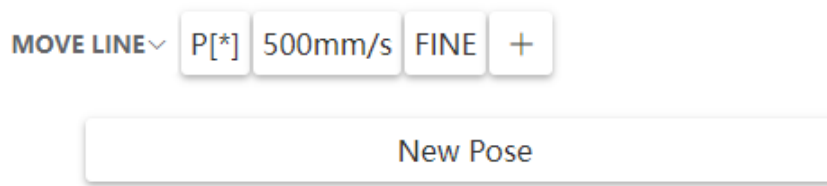
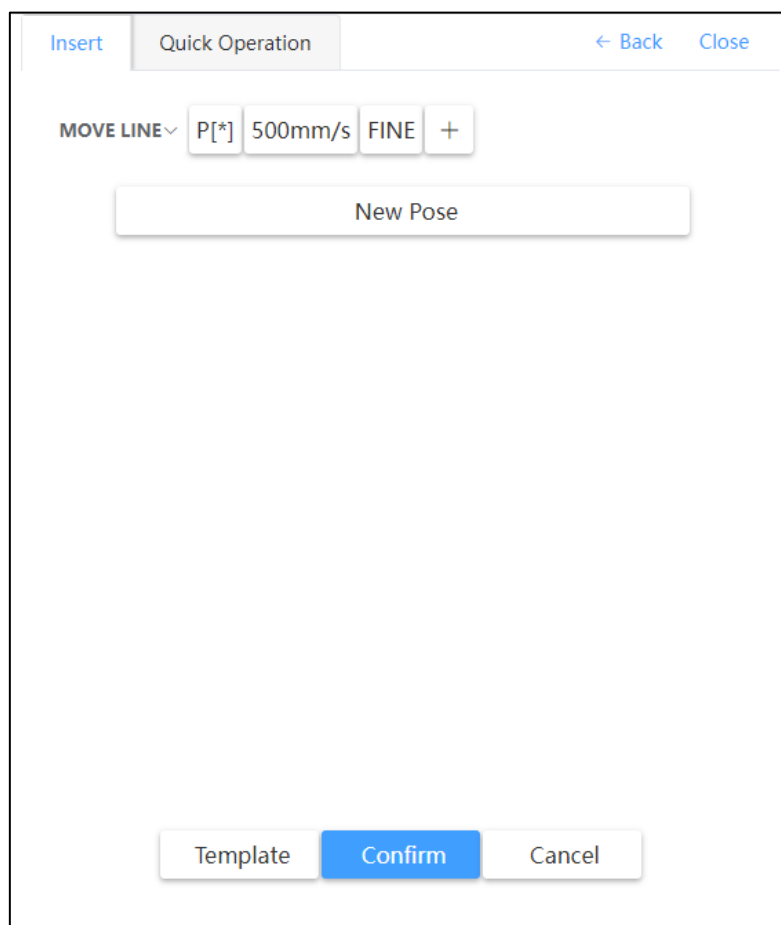

Fig. 4.14 Motion Instruction Editing Window
Fig. 4.15 Example of Continuous Motion Instruction
4. Teach the robot to the desired target position, click on new pose in Fig. 4.14, and "*" in P [*] will display specific numbers as shown in Fig. 4.15. Click "Confirm" to complete the insertion of motion instructions (insertion steps are the same for MOVEJ and MOVEC instructions).
Click  on the motion instruction editing interface to switch between motion instructions (MOVJ, MOVEC). In order to edit P, click "P [*]" in Fig. 4.14 to display the following screen.